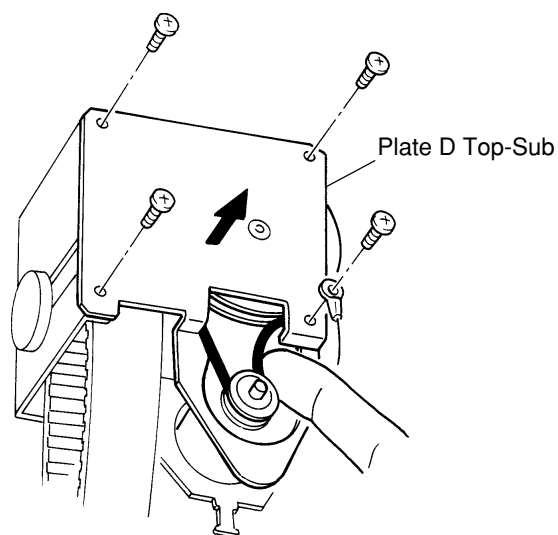

Fig. 1.6
- (1) When removing the Plate D Top-Sub, push the motor belt inward as shown in Fig. 1.6 to avoid damage to the motor belt.